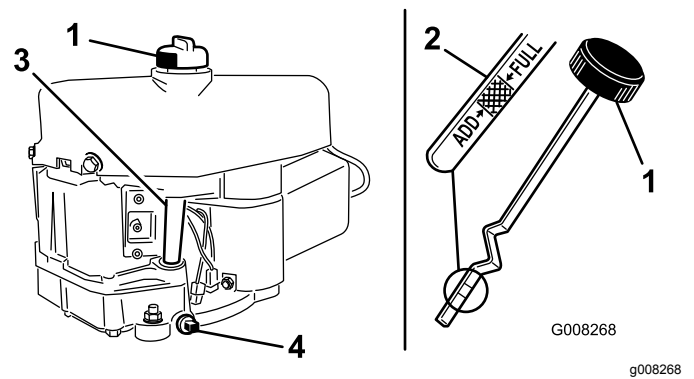

Figure 25
8. Unscrew the dipstick and wipe the metal end clean (Figure 25).
9. Screw the dipstick fully onto the filler tube (Figure 25).
9. Remove the drain plug to allow the oil to drain (Figure 25).
7. Clean around the dipstick (Figure 25) so that dirt cannot fall into the filler hole and damage the engine.
11. Clean around the dipstick and unscrew the cap (Figure 25).
12. Slowly pour approximately 80% of the engine oil into the filler tube (Figure 25).